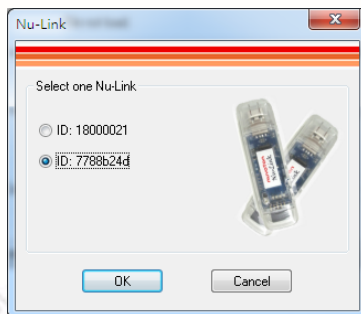

Figure 4-6 Select One Nu-Link Adapter
- Step 7: If two Nu-Link Adapters have been connected with the computer, a message appears and asks to select one from the two adapters. Clicking **OK** will connect the selected adapter with the host, as shown in Figure 4-6. When a Nu-Link Adapter is selected for connection, the Status LED starts blinking. For the blinking details, refer to the Status LED description of the "Select a Nu-Link Adapter to connect with the host" in Table 2-4.